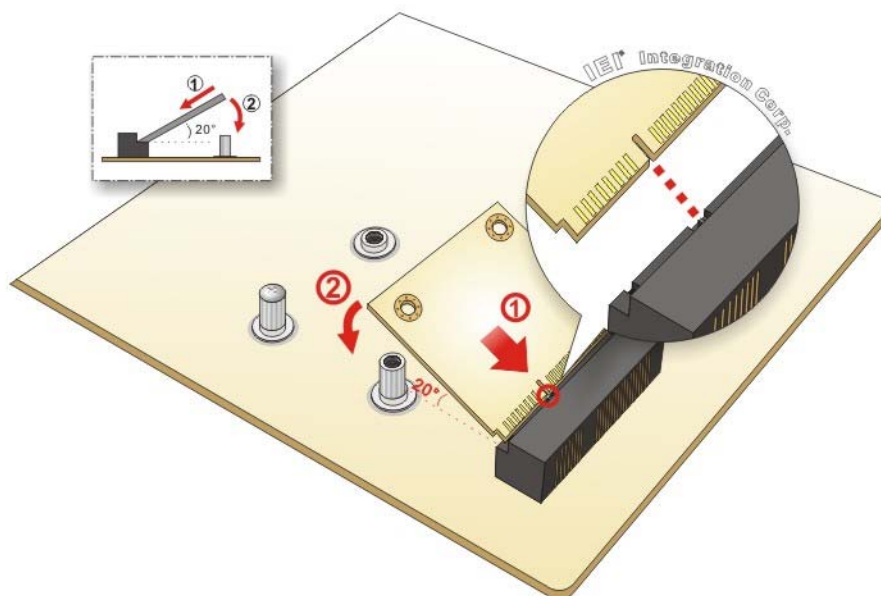

Figure 4-8: Inserting the Half-size PCIe Mini Card into the Slot at an Angle
Step 5: Insert into the socket at an angle. Line up the notch on the card with the notch on the slot. Slide the PCIe Mini card into the slot at an angle of about 20° (Figure 4-8).